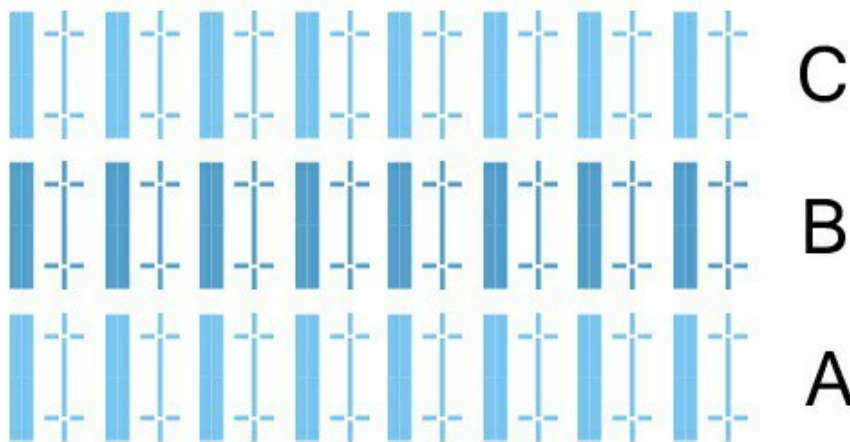

Figure 91
78. A set of patterns will begin printing. Check pattern A to pattern C shifting. If shifting is present, repeat steps 66-77. The desired results should look similar to the following example. See Figure 91.